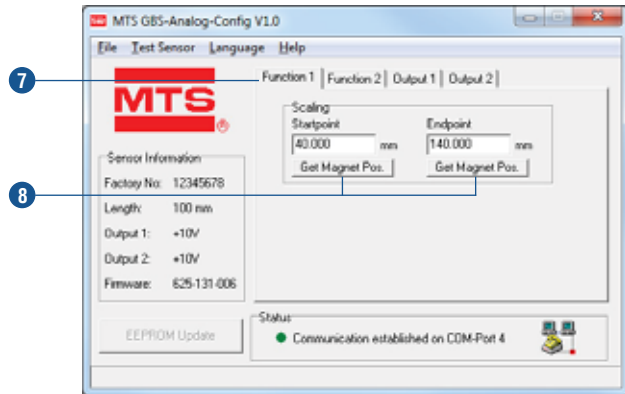

Fig. 38: Dialog field with tabs
- 7 Determine the measuring range with **Startpoint** and **Endpoint** via tab **Function 1** (Fig. 38).
- 8 The current magnet position can be stored via buttons **Get Magnet Pos.**. The measuring direction changes, when the value of the **startpoint** is higher than the value of the **endpoint**. Independent of the measuring direction, the minimum measuring distance is 25 mm (Fig. 38).